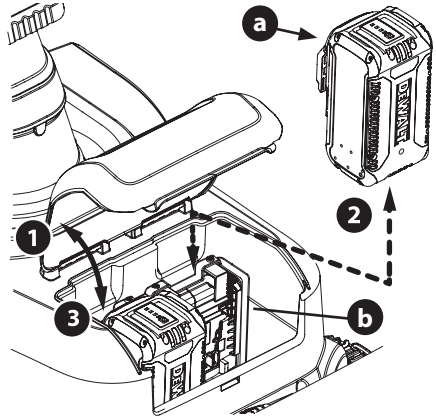

Figure 9
2. Slide one battery (a) into the battery port (b) so that the battery indicator light faces up from the battery port (Figure 9).